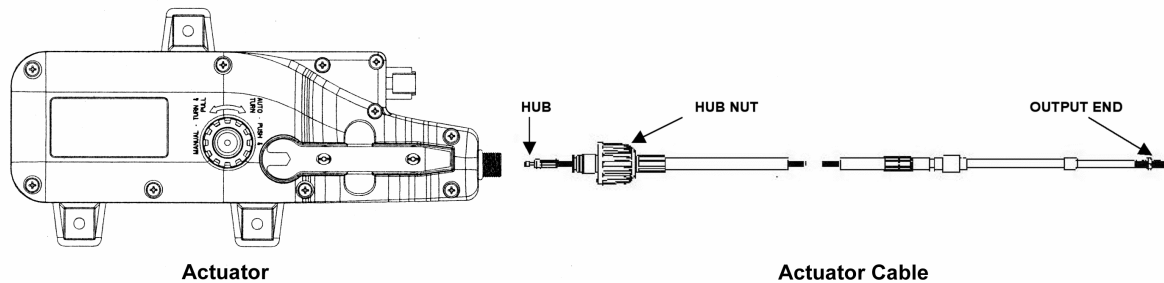

Figure 4
An actuator cable connects each actuator to its associated shift or throttle linkage on the actual engine or transmission. Figure 4 shows both ends of an actuator cable and their orientation to the actuator.
6. Place the actuator cable’s Hub (Fig. 4) into the Connector Slot of the actuator and slide the Cable Hub Nut over the connection.